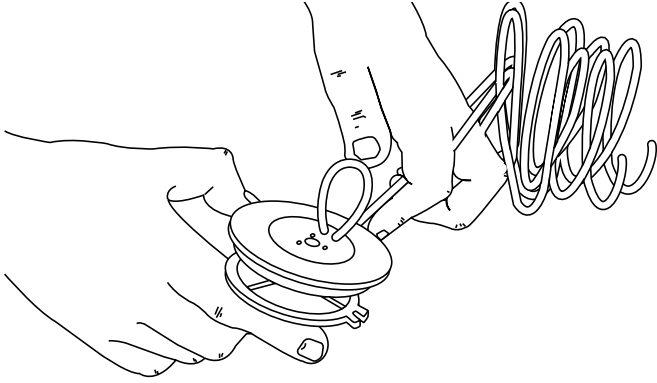

Fig. 22
6. Take approximately 25 feet (7.6 m) of new 0.080 inch diameter trimming line, loop it into two equal lengths. Insert each end of the line through one of the two holes in the inner reel (Fig. 22). Pull the line through the inner reel so that the loop is as small as possible.